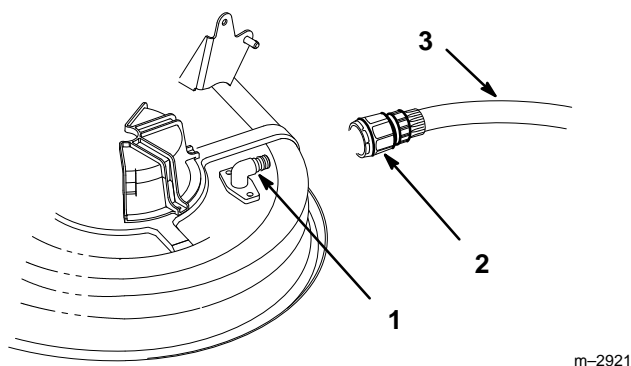

Figure 52
2. Attach coupling (not supplied) to mower washout fitting and turn water on high (Fig. 52).